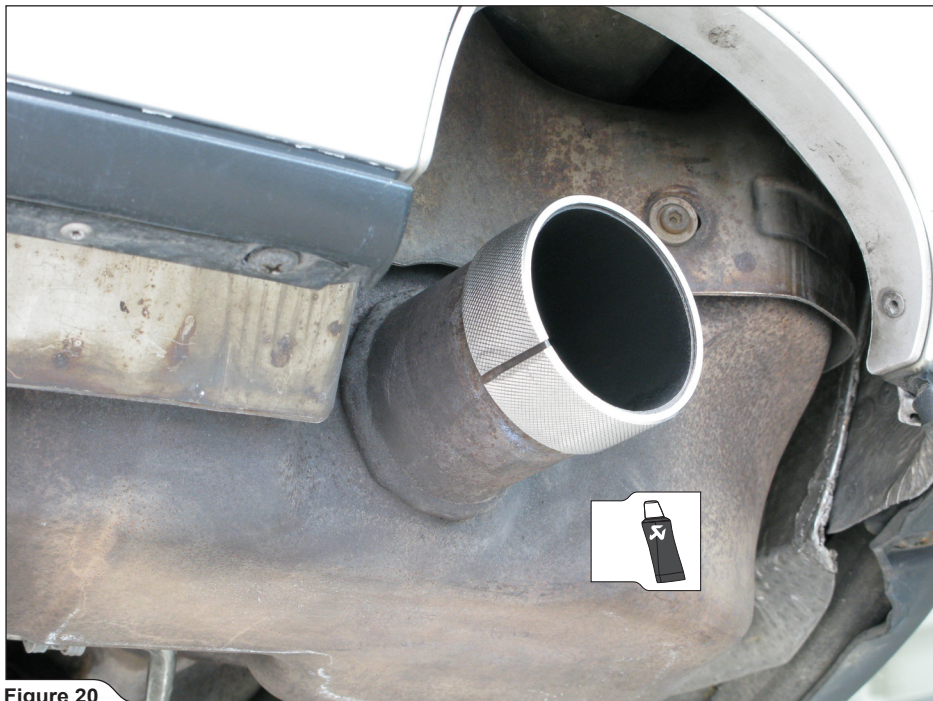

Figure 20
7. **For Tail Pipes only:** slide the reduction rings onto both stock muffler outlets (**Figure 20**).